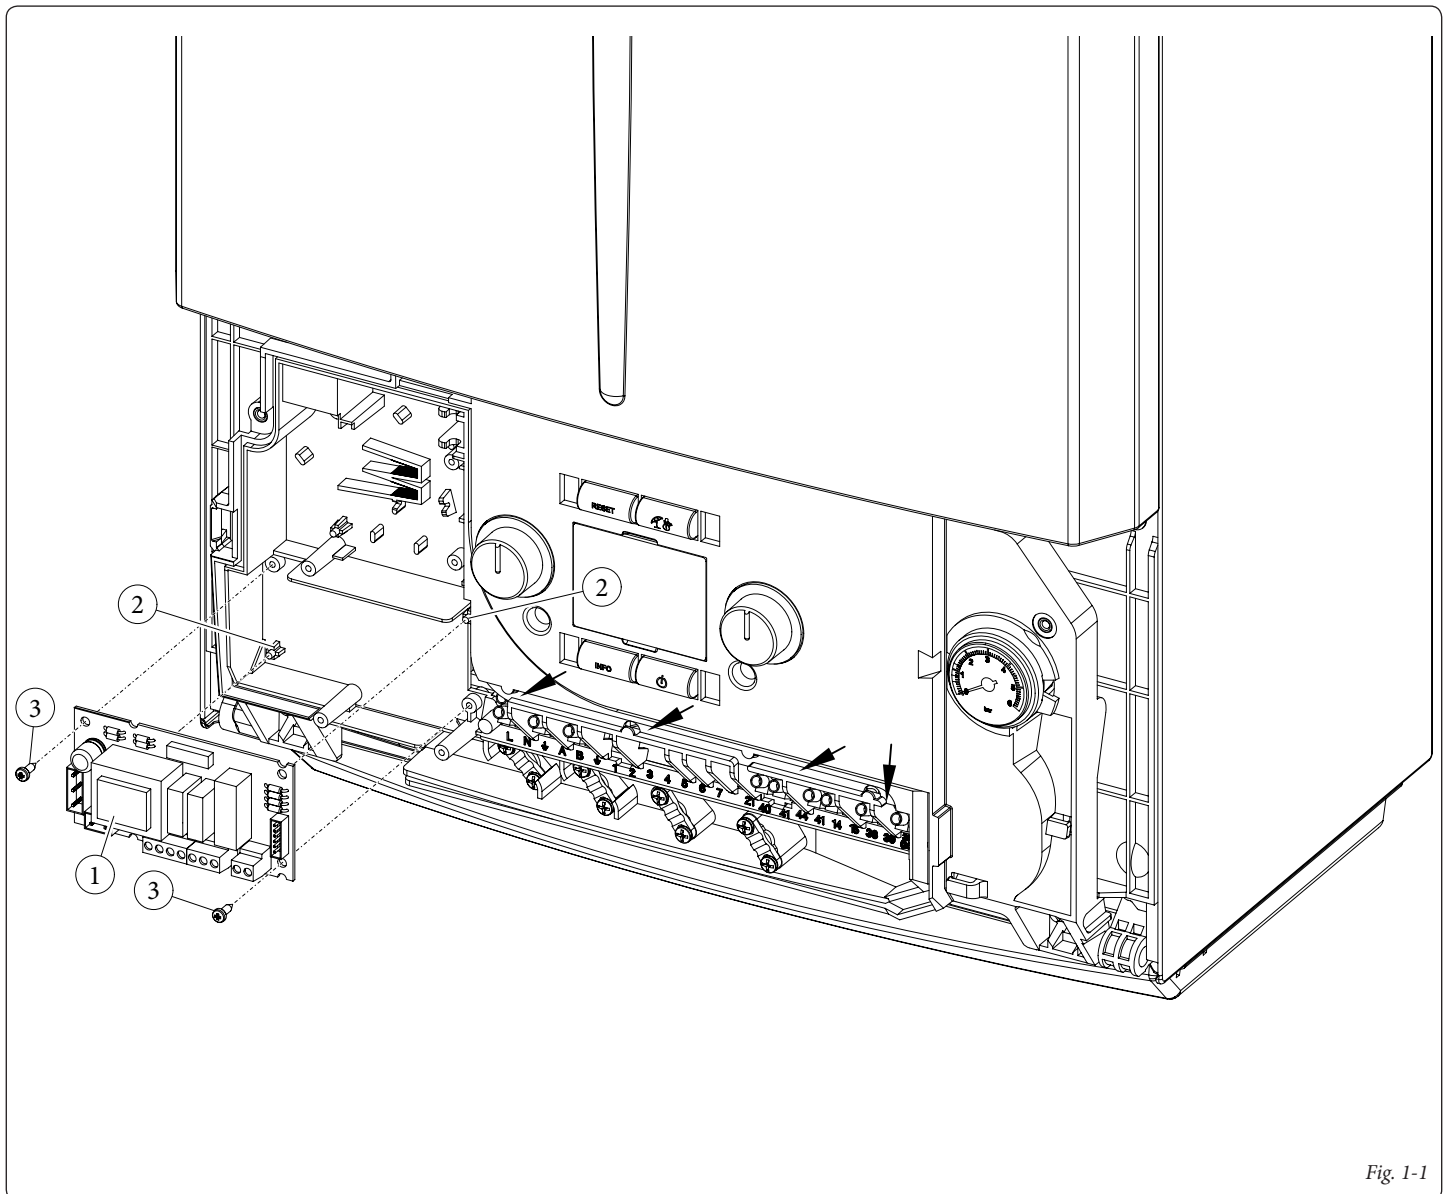

Fig. 1-1
- Open the control panel compartment to install the relay board (1).
- Mount the board making the male pin (2) match the hole in the board (1) and fix it using the cross-head screw (3) (see figure 1-1).
- Make the electric connections between the relay board (1) and the boiler P.C.B., placed on the control panel rear, using the relative wiring composed of two cables supplied with the kit.
- The connection cable between the relay board and the boiler board must comply with the path indicated by the arrows (fig. 1-1).
- Open the compartment on the control panel for installation of the relay board (1) (see figure 1-1 on the basis of your boiler model).
- Mount the board making the male pin (2) match the hole in the board (1) and fix it using the cross-head screw (3) (see figure 1-1 on the basis of your boiler model).
- Make the electric connections between the relay board (1) and the boiler P.C.B. (4) using the relative wiring composed of two cables supplied with the kit. Connect the external components according to requirements following the wiring diagrams given on the next pages.